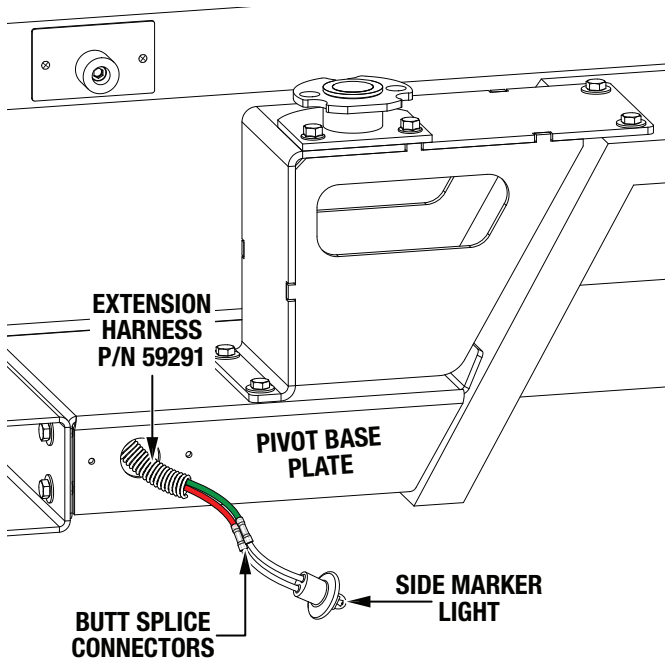

Figure 21. Side Marker Wiring Connection
2. From inside the frame, insert the spliced wiring extension harness (P/N 59291) through the newly drilled 3/4-inch hole in the frame so that it extends out of the pivot base plate hole as shown in Figure 21.
3. Insert the stripped end of one of the side marker wires into one of the extension harness butt splice connectors (Figure 21) and crimp.
4. Insert the stripped end of the remaining side marker wire into the remaining extension harness butt splice connector (Figure 21) and crimp.